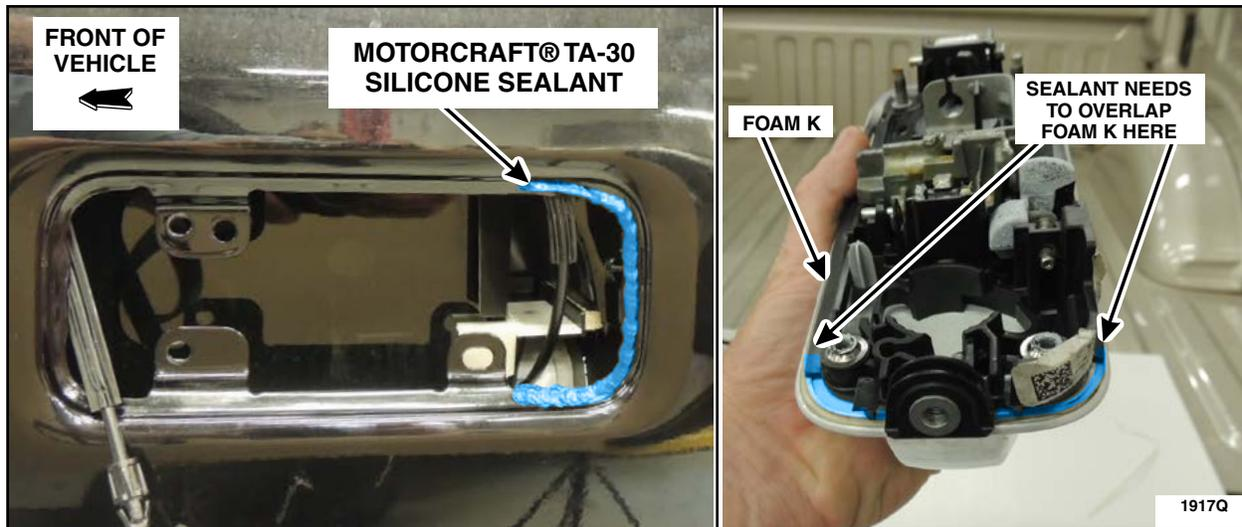

FIGURE 63
35. Apply a bead of Motorcraft® TA-30 silicone sealant to the latch side area of the rear door exterior handle opening metal surface. Make sure that the sealant overlaps with the Foam K on the exterior door handle. See Figure 63.